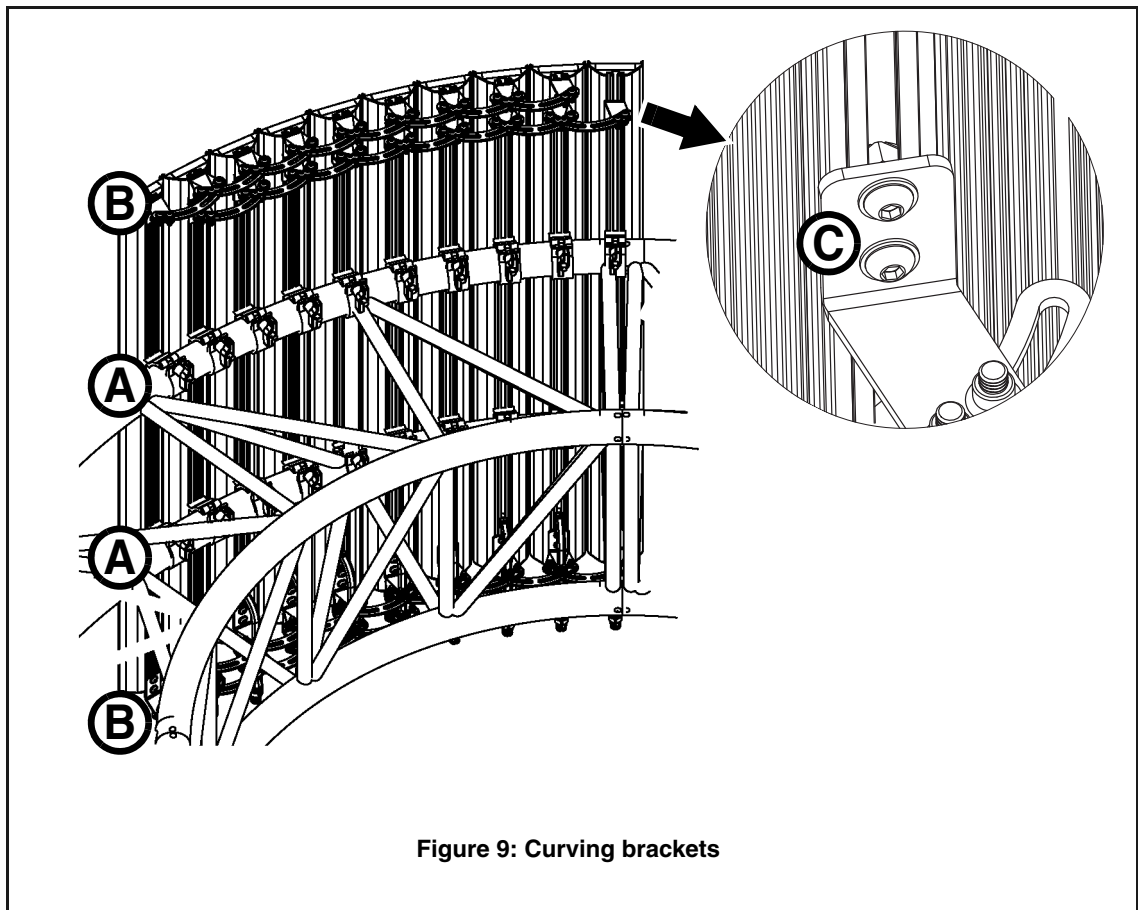

Figure 9: Curving brackets
The adjustable curving brackets available from Martin® let you install fixtures in precisely aligned curves. You can lock fixtures at angles of up to 60° from each other in an outward-facing curve as shown in Figure 9.
1. See Figure 9. Note the positions of the half-coupler clamps **A** and curving brackets **B**. Note that if the truss will be in a location where fixtures may cause injury or damage if they fall, you must also fasten a safety cable attachment bracket to each fixture so that you can attach each fixture to a secure anchoring point. Pass fasteners through the cutouts and into the channels in the back of fixtures in a suitable order so that curving brackets, safety cable attachment brackets and half-coupler clamps can be arranged correctly.